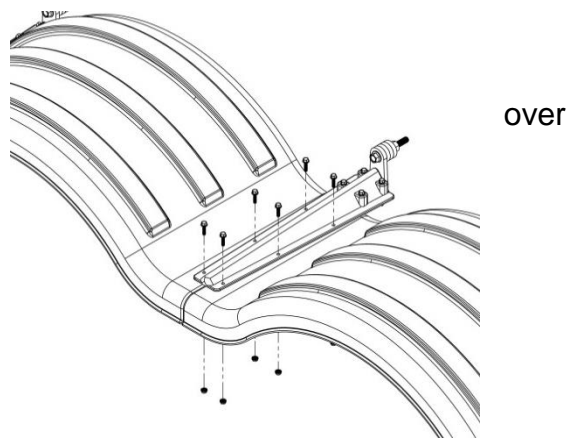

Figure 7
- E. Mount the center bracket so that it is directly the seam where the fenders join together (Figure 7).